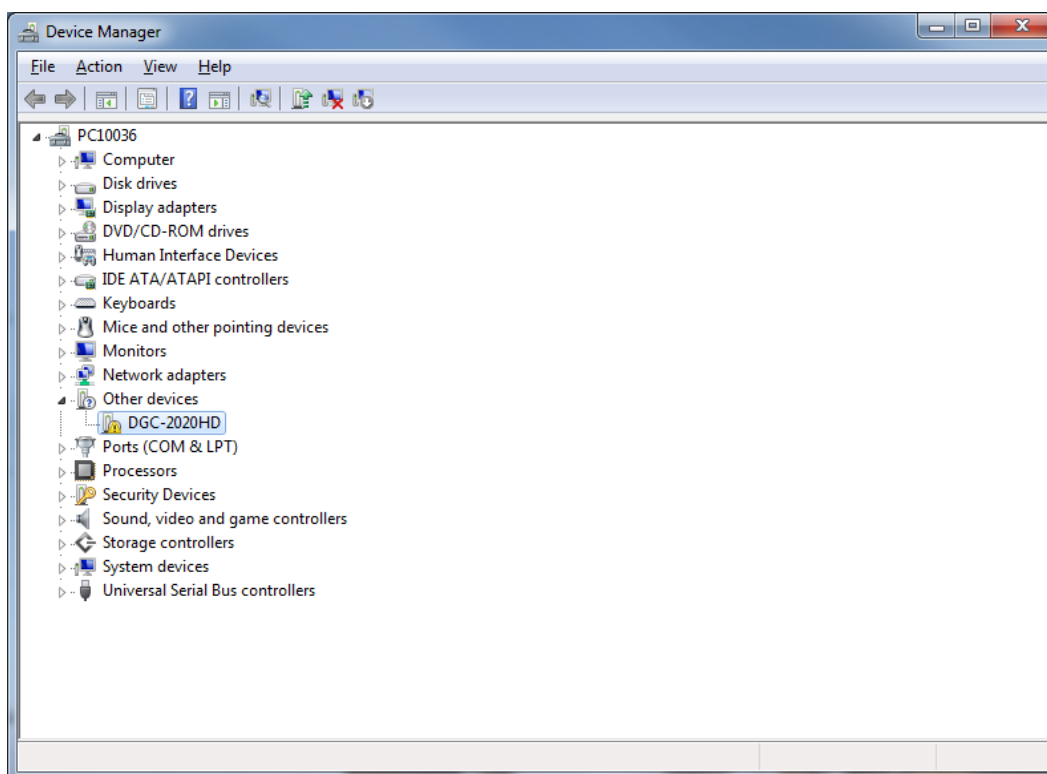

Figure 229. Device Manager
- Step 2. Open the Windows® Device Manager as shown in Figure 229. Right-click on DGC-2020HD (or Unknown Device) under Other Devices and select Properties.